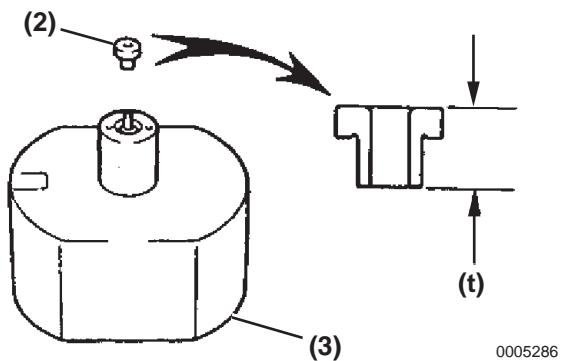

Figure 6-26
3. Measure dimension (t) of the No. 2 pressure spring seat (**Figure 6-26, (1)**) using a micrometer.
4. Install the nozzle assembly and No. 2 pressure spring seat on the special tool (B) (**Figure 6-26, (2)**).